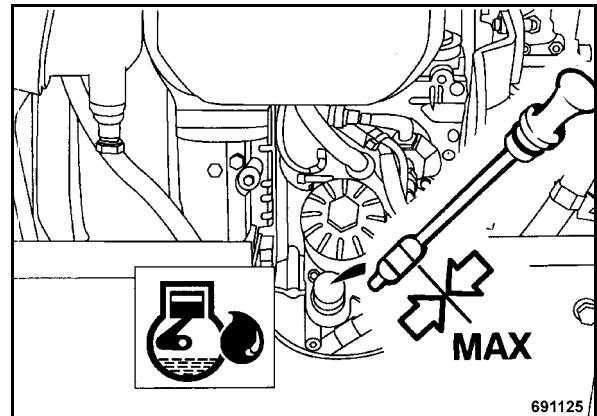

Fig. 45
- Pull the dipstick (Fig. 45) out, wipe it off with a lint-free, clean cloth and reinsert it until it bottoms.